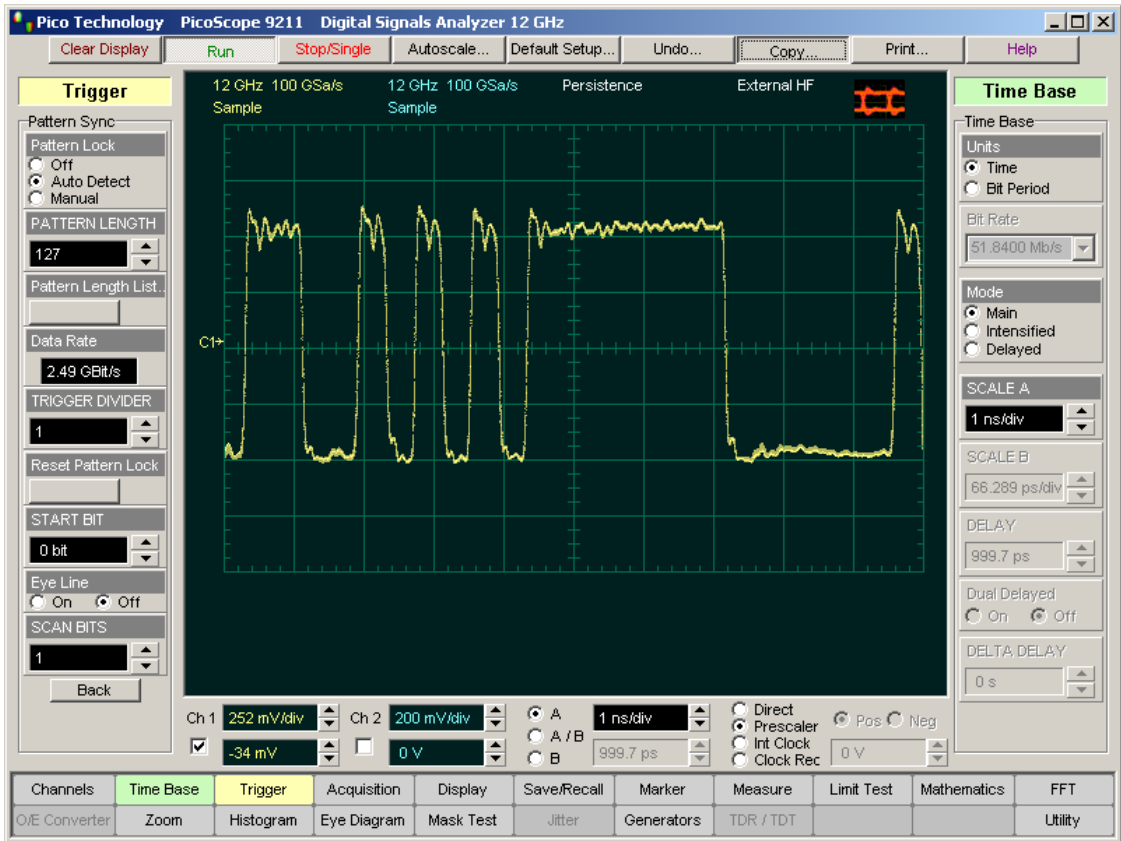

Figure 3
9. Set **SCAN BITS** to 32. See Figure 3.